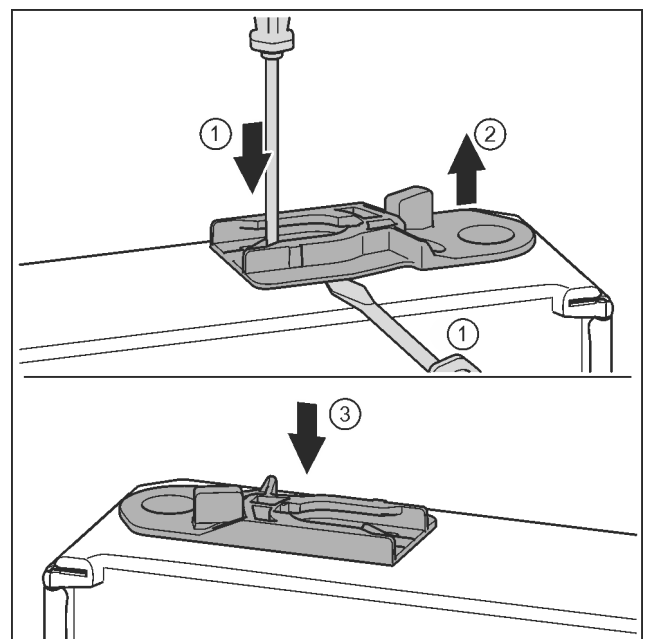

*Fig. 36*
- ▶ Remove the cover and fix it on the other side. *Fig. 36 (1)*
- ▶ Place the bearing bracket on the other side and screw in with the aid of a T25 screwdriver. Start with screw 2 at the bottom in the middle. *Fig. 36 (2)*
- ▶ Screw in screws 3 and 4. *Fig. 36 (3, 4)*
- ▶ Rotate the soft stop connection 180°. Screw in with a T25 screwdriver on the other side of the bearing bracket. *Fig. 36 (5)*
- ▶ Insert the bearing pin completely. Make sure that the catch mechanism is pointing to the rear. *Fig. 36 (6)*